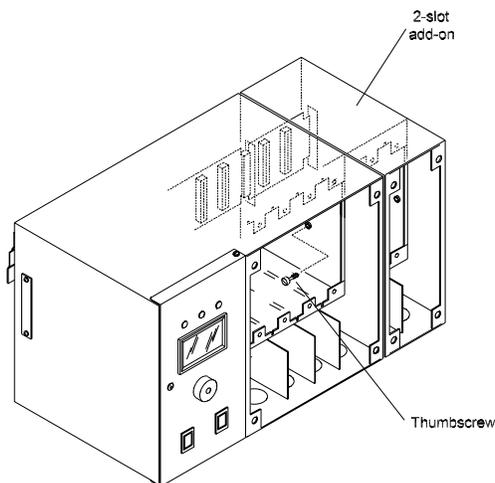

Figure 3 Securing the 2-slot add-on
Step 7: Use the thumb screw provided to secure the two chassis together as shown in figure 3. Use the provided mounting screw to attach the chassis mounting tab to the wall.